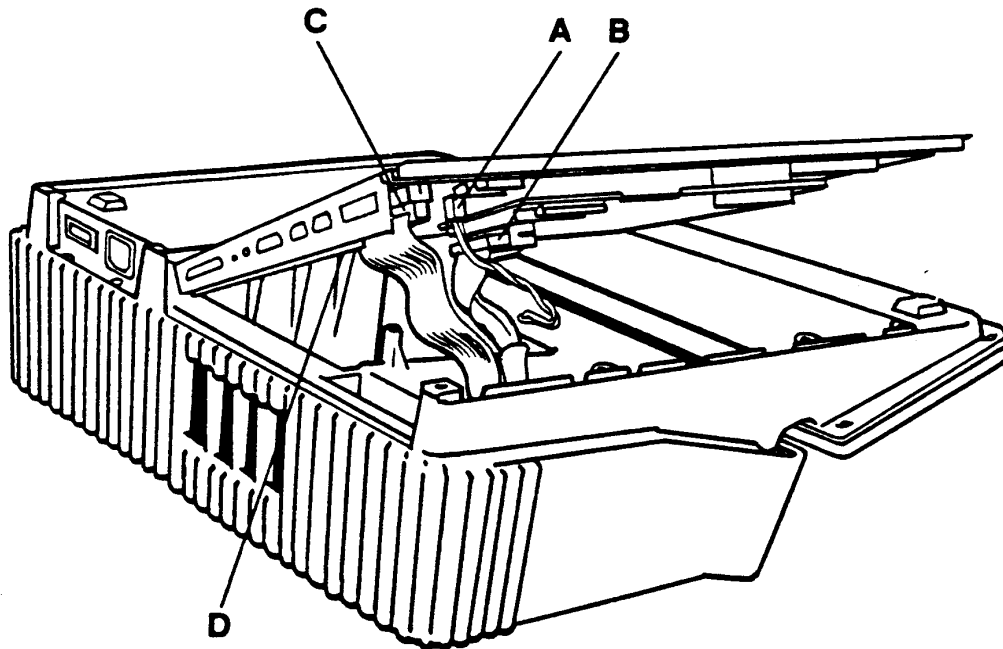

FIGURE 7.2
8. Slowly tilt up the access panel from the right side. Allow the panel to remain resting on its edge nearest the power supply. Refer to Figure 7.2.
9. Note the orientation and routing of the cables. While supporting the logic board from the underside remove the speaker cable (Figure 7.2 item A), the keyboard cable (Figure 7.2 item B), the disk cable (Figure 7.2 item C), and the power supply cable (Figure 7.2 item D).